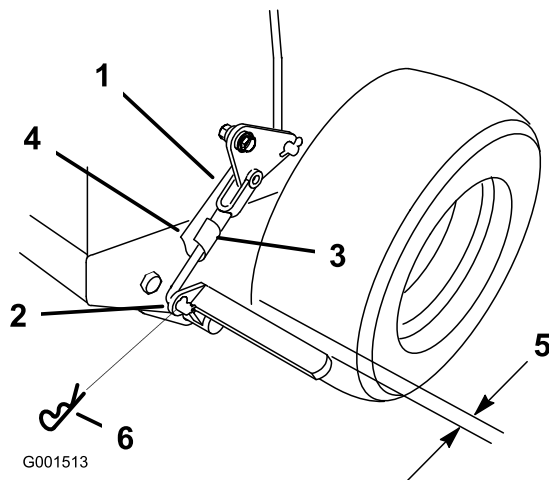

Figure 48
3. Remove the spring clevis pin from the lower brake link (Figure 48).
yoke counterclockwise out of the yoke out to loosen the parking brake (Figure 48).
Note: There should be approximately 6 mm (1/4 inch) clearance between the tire and the flat bar with the parking brake in the released position (Figure 48).
5. Secure the lower link to the lower brake lever with the hairpin cotter and the clevis pin (Figure 48).